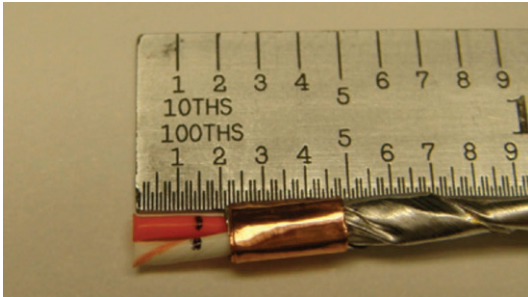

Figure 32: Marking each pair
9. Mark each pair 0.15 inch from the end of the cable (Figure 32).